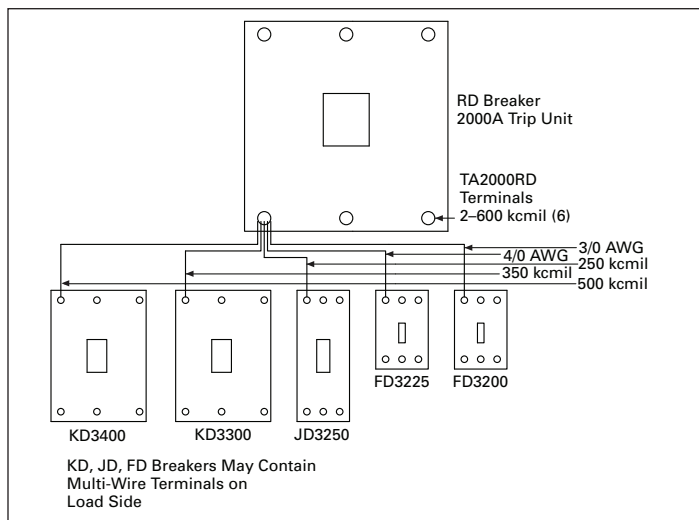
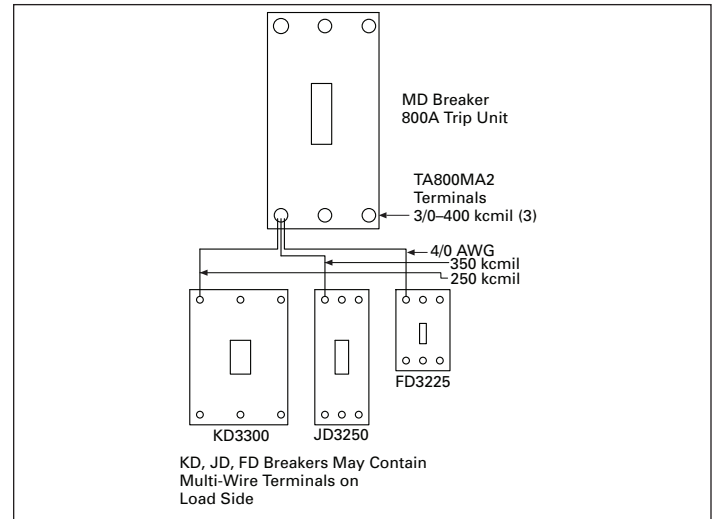
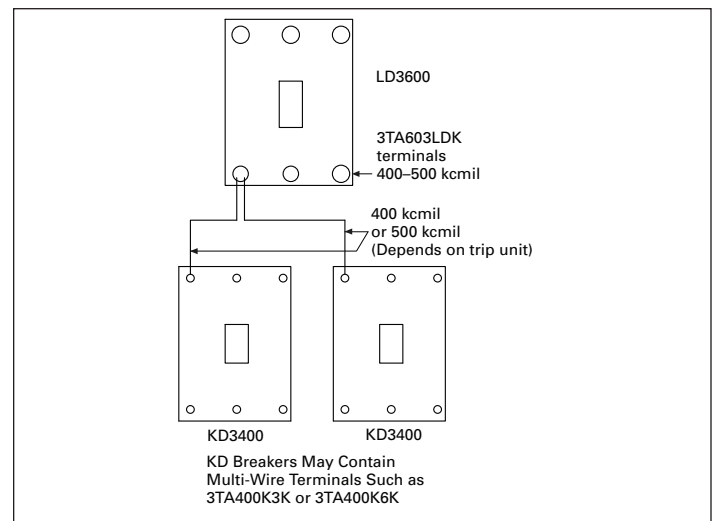

Figure 6. RD Breaker
Figure 7. MD Breaker
Figure 8. LD Breaker
**Figure 6**, **Figure 7**, and **Figure 8** provide additional examples of taps to serve lower-ampacity loads from higher-ampacity circuit breakers, only from a different series of circuit breakers, the Series C®. The rules remain the same as for any other tap.
The RD circuit breaker in **Figure 6** has five smaller breakers tapped from its terminals. One may actually tap six breakers because the terminals for the RD breaker will accept six conductors. The terminal capacity is for 6–2 AWG to 600 kcmil. Consequently, a circuit breaker as large as 450 amperes can be tapped from the RD breaker using a single, 600 kcmil conductor. NEC 240.4 (B) permits sizing to the next higher standard rating shown in 240.6 if the conductor rating is not equal to a standard rating; the maximum OCPD cannot exceed 800 amperes. UL 508A does not offer a similar exemption.
Taps as small as 80 amperes can be made from the MD breaker in **Figure 7** when an 800 ampere trip unit is used; however, the smallest conductor is limited to 3/0 AWG due to the lower size limit for the terminals. By changing the trip unit to 600 amperes, conductors as small as 1 AWG can be tapped from the breaker.
**Figure 8** illustrates an LD breaker used as a main or feeder. As was true in **Figure 6** for the RD breaker, a circuit breaker with a 450 ampere trip unit can be tapped from the LD circuit breaker by using a single, 500 kcmil conductor. UL 508A does not offer a similar exemption.